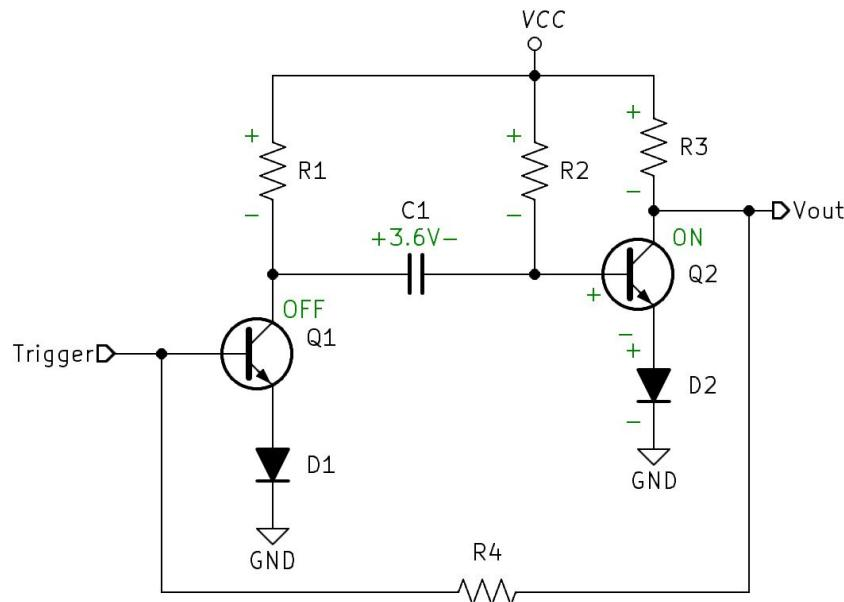

Figure 11.5: Bipolar Junction Transistor Monostable Multivibrator Stable State
- Stable State** Observe Figure 11.5. Q2 will immediately turn on due to the unrestricted base resistor R2. The current path for Q1 to turn on goes through R3 and R4. This means Q2 will turn on faster than Q1 and once Q1 is on it will take away VCC leaving only the 0.7 volts of D2 which will not be enough to bias on both Q1 and D1. This is the happy or stable state of the monostable and Vout is low.